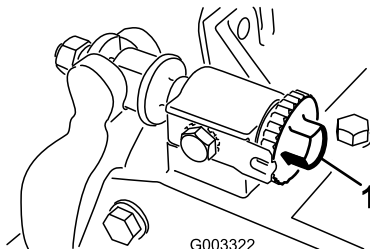

Figure 25
1. Loosen reel to bedknife contact by turning the bedknife adjusting knobs (Figure 25) counterclockwise until no contact exists.